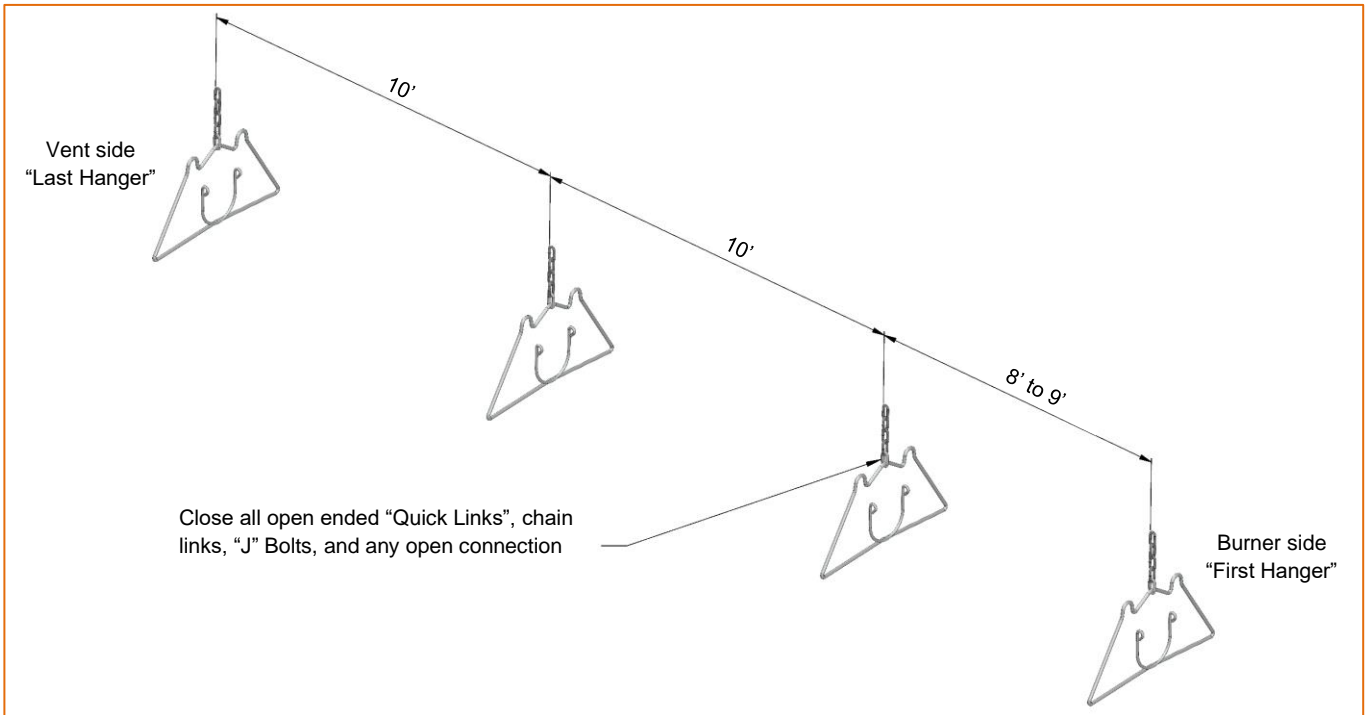

Figure 6: Typical Hanging Points
- Locate hanging chain at predetermined suspension points in the structure. It is required that the first 2 hangers be about 8' to 9' away. Thereafter, 10' apart on average is acceptable for the remainder of the heat exchanger. At no time should hangers be more than 12' apart (see Figure 6).